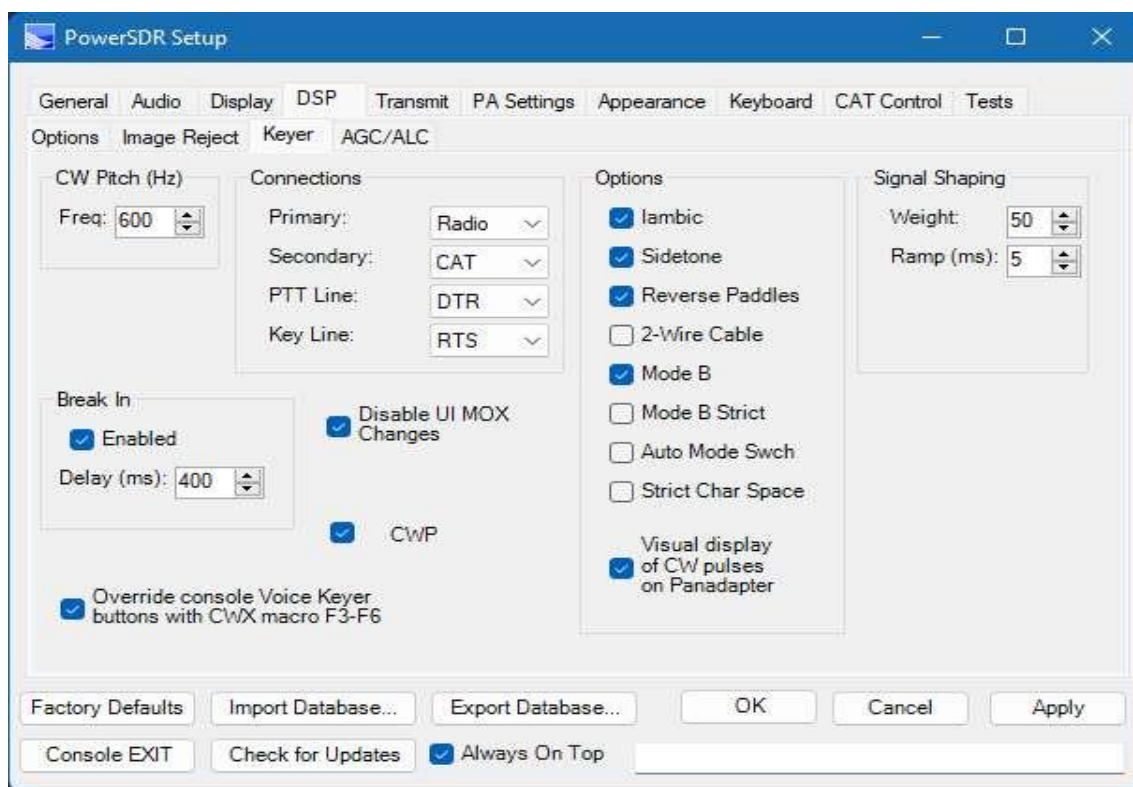

Figure 39: Setup-> DSP-> Keyer
If using PowerSDR's internal keyer, open the Setup-> DSP -> Keyer shown in Figure 39 below. Several of the controls in this form are also available in the **Mode Specific Controls – CW (8)** section on the Front Console.
1. Connect your paddles or keyer to the Key jack on the back panel (see page 9) and on the Keyer Sub-Tab in the **Connections** section, set **Primary** to **Radio** (see Figure 39 above).
1. Connect your paddles or keyer to the Key jack on the back panel (see page 9) and set the **Primary Connection** to **Radio** (see Figure 39 above)
2. In the **Options** section, leave **Iambic** unchecked. If your external keyer does not seem to be keying, try checking **Rev. Paddle**. If using an external keyer with a side tone, check the **Disable Monitor (8)** check box to avoid hearing the side tone from the internal keyer. The **Break In** option allows the radio to start transmitting simply with detection of keyer input. Set **Delay** to the amount of time between key up and when the radio will switch back to receive.
4. If not using **Break In**, click **MOX (16)** on the Front Console and begin transmitting using your external keyer. If using **Break In**, simply begin transmitting to key the radio. If **Disable Monitor** is unchecked, you should hear the side tone. Verify with the **TX Meter (4A)** set TX2 to **COMBO** that there is forward power.
5. You are now ready to begin a QSO. If a 50 ohm dummy load was connected, connect an antenna in its place. Tune to the desired frequency using one of the methods outlined in the Tuning Methods section above. Select either **CWL** or **CWU (6)** and proceed with the QSO.